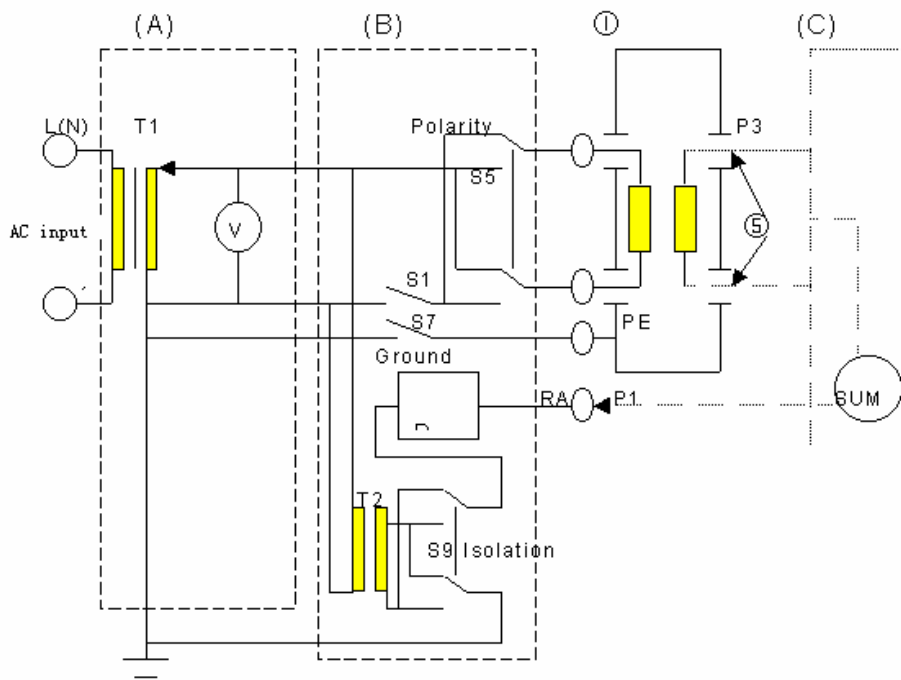

Figure 3-3 Connection graph for leakage current testing between application part (patient) and the earth
2.2.3.1 Connection graph for testing is shown in figure 3-3: